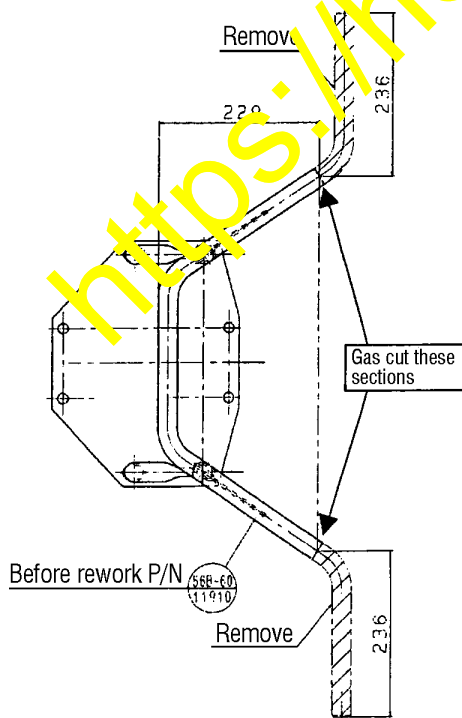

Fig. 2
- 2) Cut the end of the hose guide. (Refer to Fig. 2.)